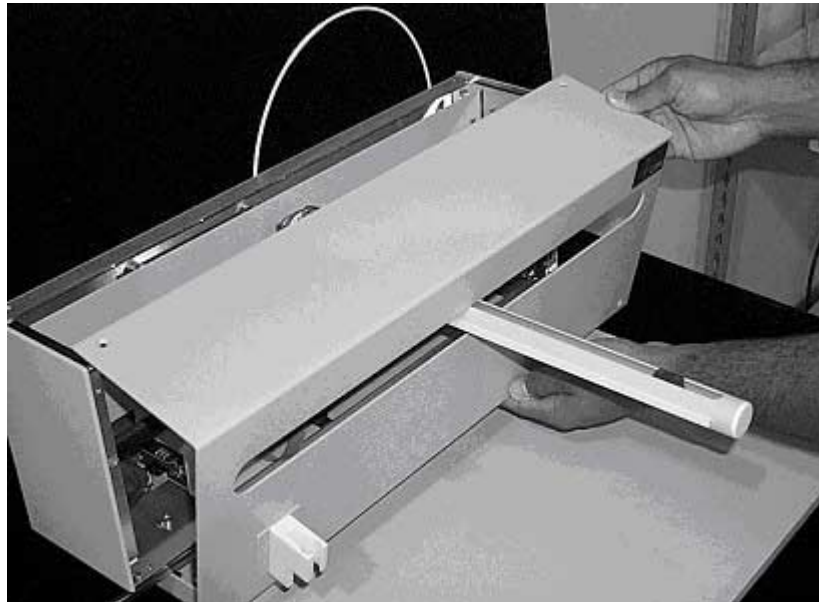

Figure 1-8. View of ASX-510 Auto-Sampler with the front cover being removed.
6. The front cover can be removed by lifting it slightly and pulling forward. See Figure 1-8.